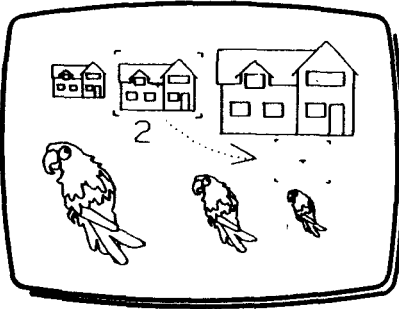

Fig 3
- 4 **Press and release T when you have marked a unit you wish to move, the frame stops flashing, and a second cursor frame appears carrying (invisibly!) the marked library unit, as in Fig 3.**